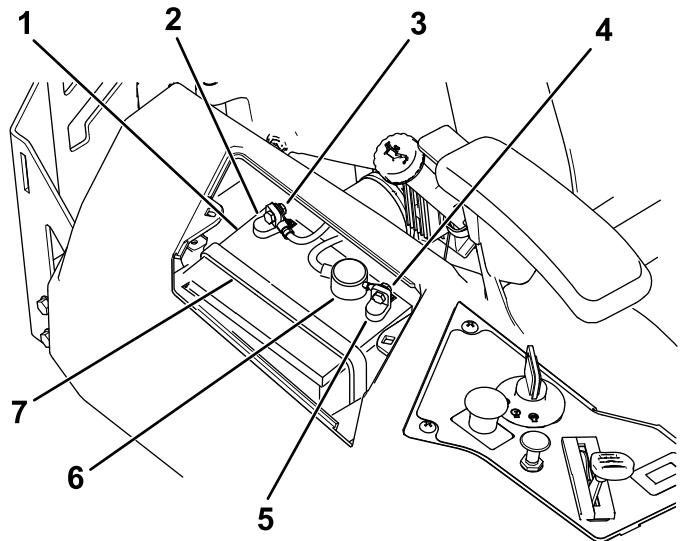

Figure 55
4. Disconnect the negative (black) ground cable from the battery post (Figure 55).
6. Disconnect the positive (red) cable from the battery post (Figure 55).
7. Remove the battery hold-down (Figure 55), and lift the battery from the battery tray.